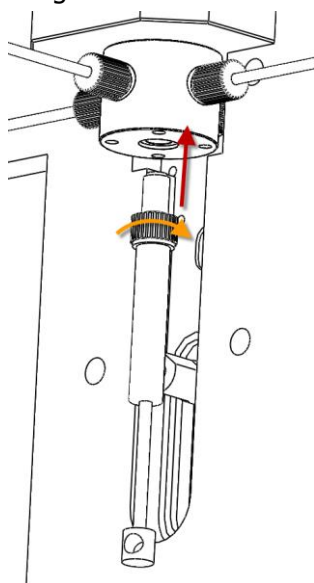

Figure 5-9 To Replace the Syringe of L-3320 (4)
6. Install the new syringe onto the valve (as shown in Figure 5-9). You can push the plunger of the syringe gently to extrude some drops of solvent to make sure that there is liquid film at the inlet of the syringe to prevent air bubbles from entering the syringe when installing. Screw the syringe into the connecting thread hole on the valve and tighten it.